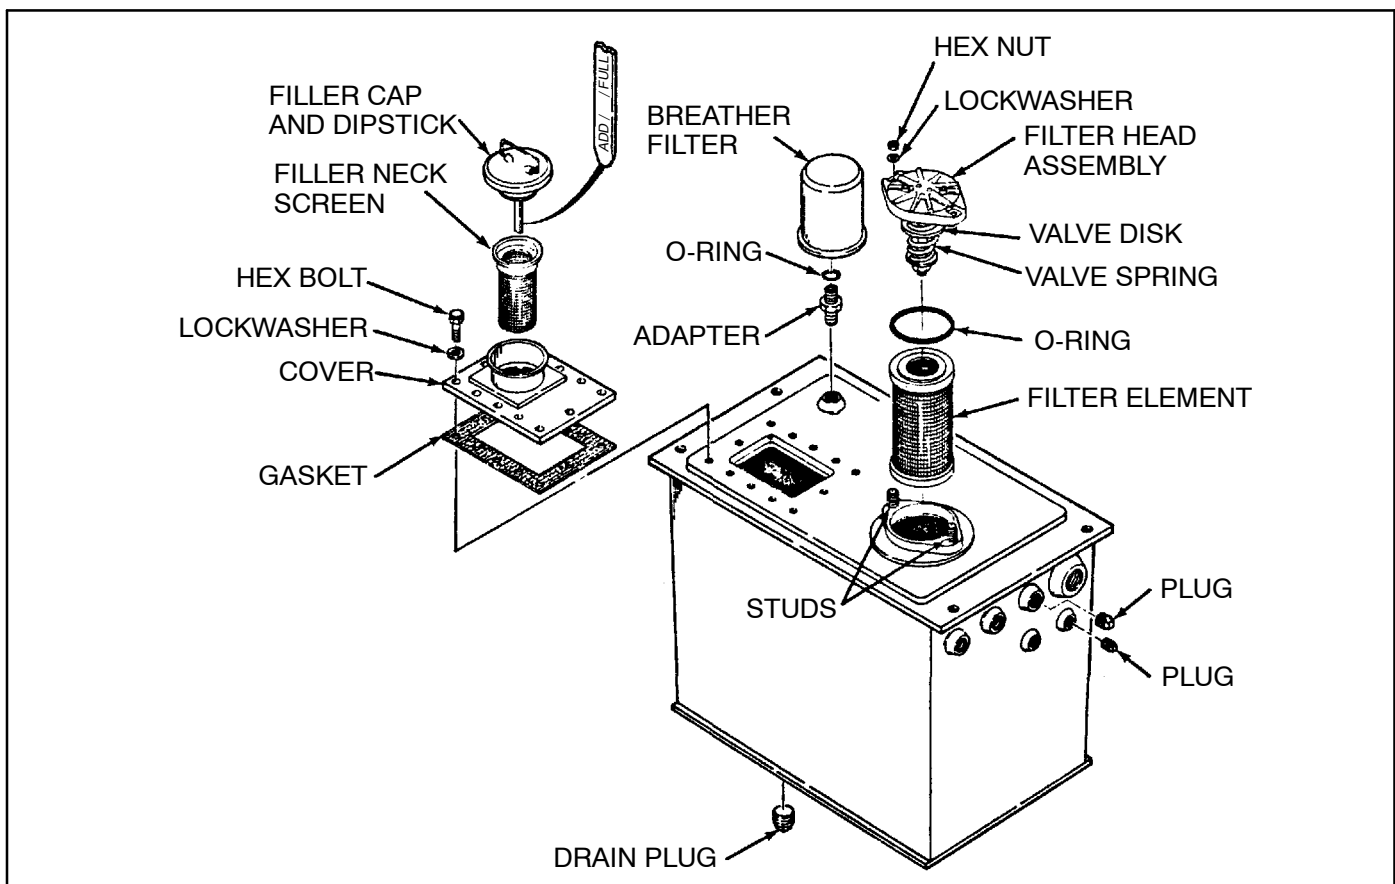

Figure 2. Hydraulic Reservoir
1. **Checking The Oil Level.** With the lift cylinder fully retracted (carriage down), remove the filler cap with attached dipstick (See Figure 2) and check to see that the oil level is even with the FULL mark on the dipstick. Perform this check daily and add oil if necessary. Check the condition of the filler neck screen before adding oil. Refer to the appendices in the back of this manual for the type of oil to be used.
3. **Hydraulic Filter.** The hydraulic filter (See Figure 2) is a reusable filter. The filter element is 100 mesh corrugated screen. Refer to the appendices in the back of this manual for service intervals and perform the following procedures to service the hydraulic filter.
- a. Remove the two hex nuts (See Figure 2).
- a. Provide a suitable container and remove the drain plugs (See Figure 2) and drain the hydraulic reservoir.